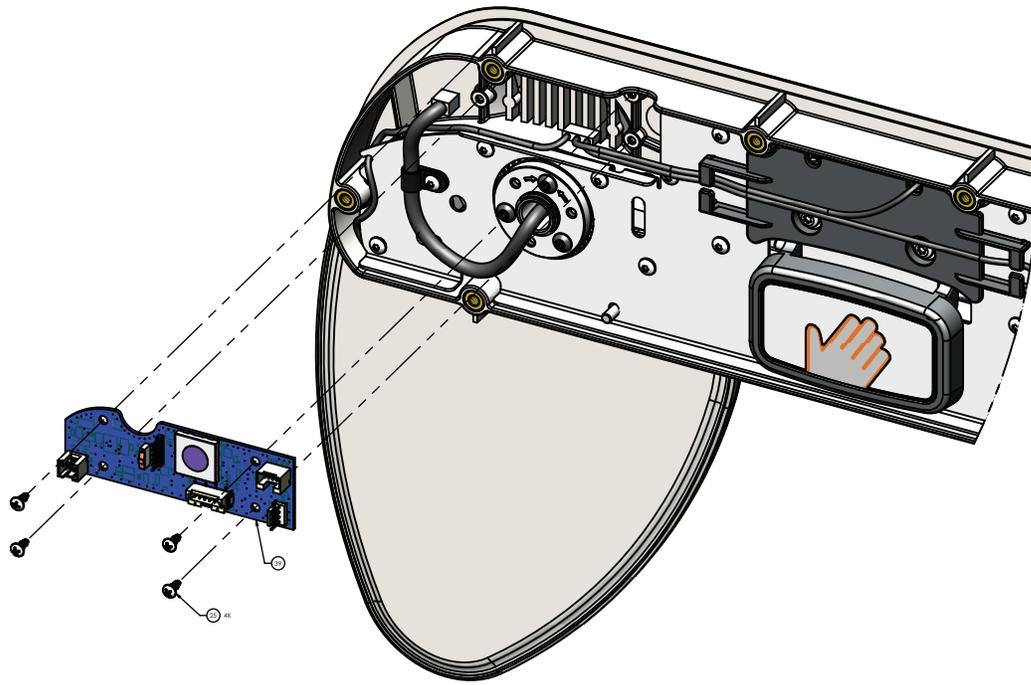

Figure 45 – Foot siderail control board replacement, patient right
10. Using a #2 Phillips screwdriver, remove and save the four screws (25) that secure the siderail control board (39) to the siderail assembly (Figure 45).